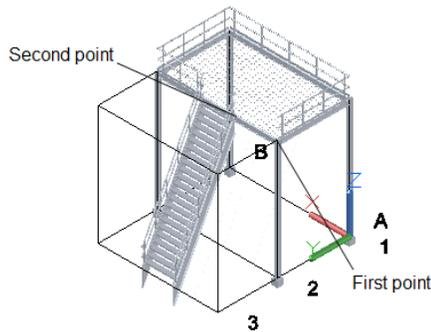

*Figure 3-47* Railing added to the stairs
2. Select the stairs; a railing is added to the stairs, as shown in Figure 3-47. Next, you need to add railing to the beams.